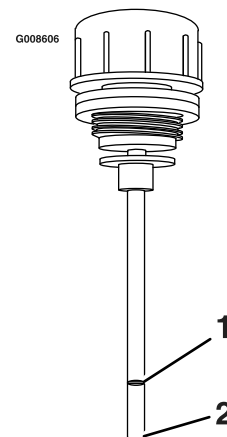

Figure 1
7. Install the dipstick into the filler neck, thread it fully, remove it, and check the fluid level (Figure 1).